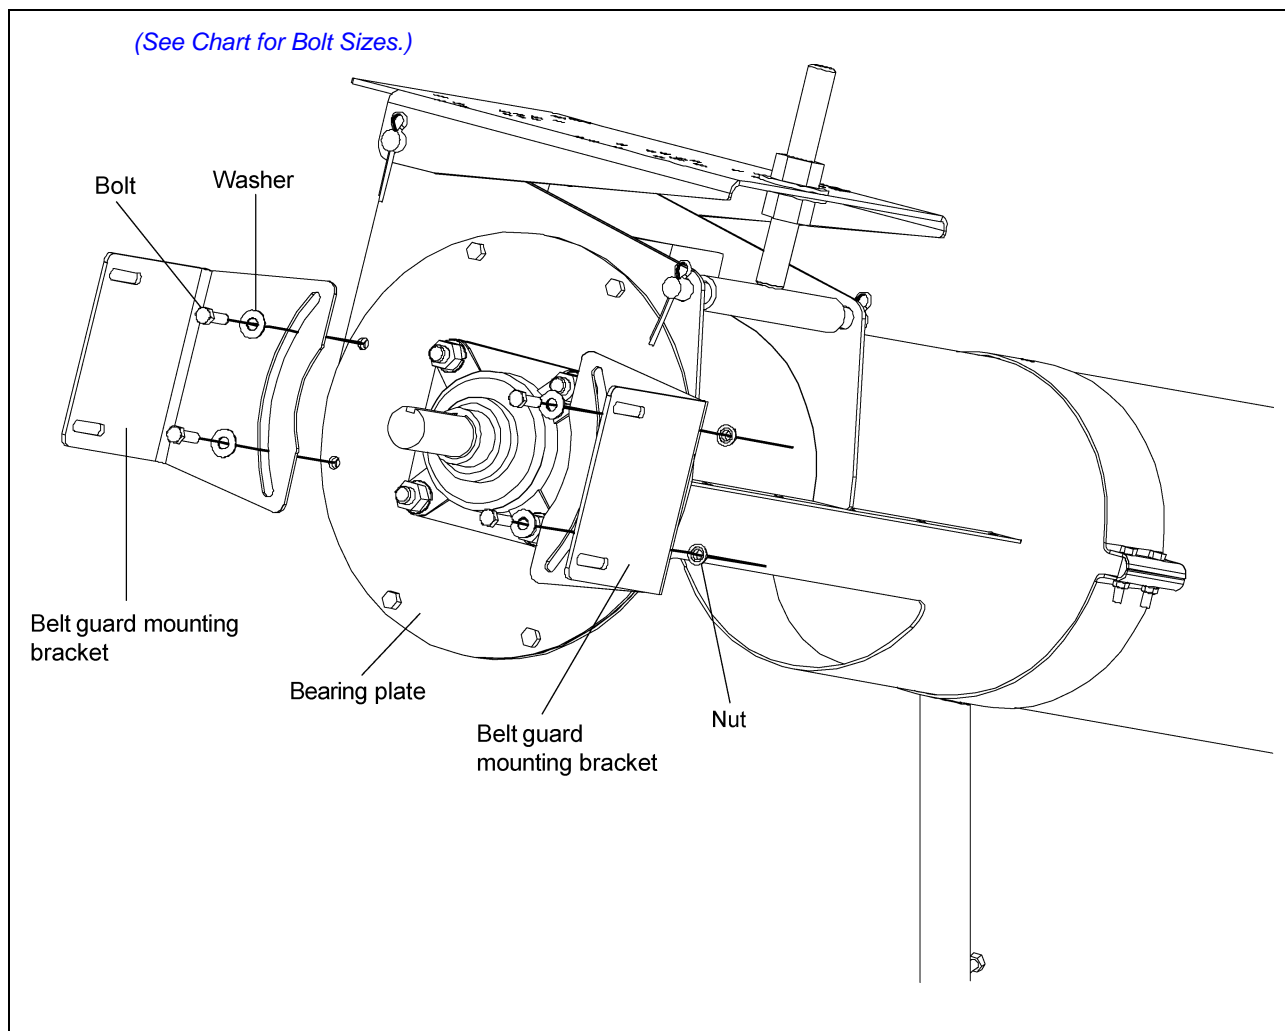

Figure 4H
2. Secure the brackets with proper bolts, flat washers and serrated flange nuts. *(See Chart below and Figure 4H.)*